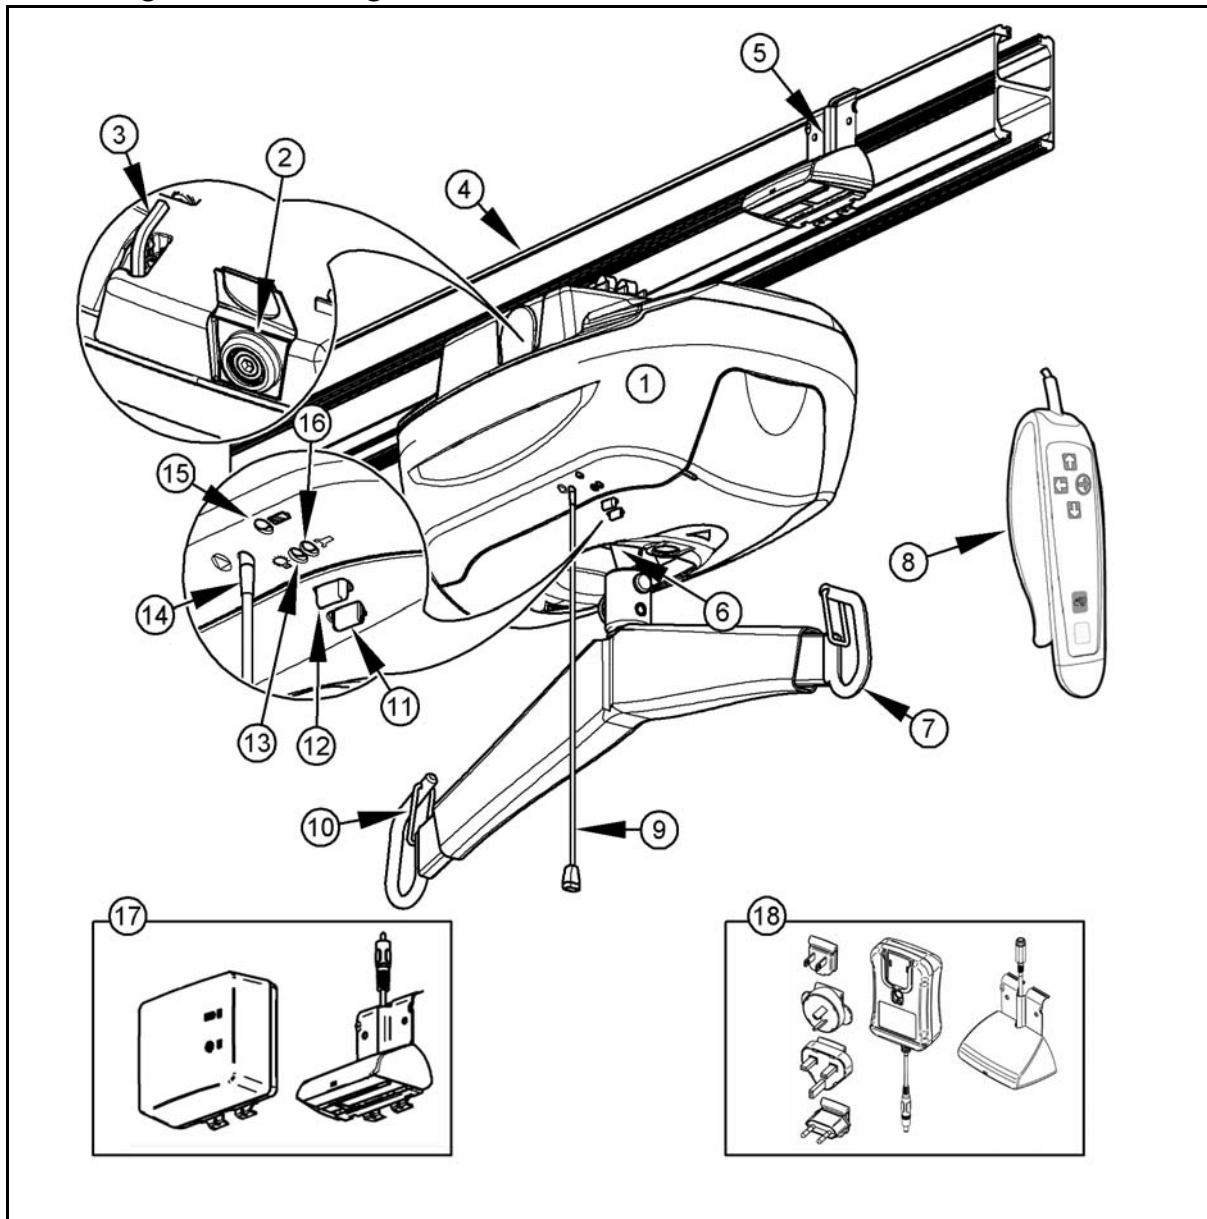

Fig. 4
The following refers to Fig. 4 on previous page:
The V4 units are equipped with either a cord-connected universal charging system (#700.15500) or a wall-adapted charger (#700-15501) that can both be customized to fit the AC voltage outlets where they are sold (see Fig. 4).
- 1) To stop the ceiling lift in any emergency, gently pull the red emergency cord once, until you hear a “click” (see Fig. 4 in the “Part Designation” section of this manual). You will notice that the reset switch’s plastic insert, at the very top of the red cord, has descended. The green power light has also turned off. You may also notice that the patient begins to descend slowly when the emergency stop is activated. This is normal.